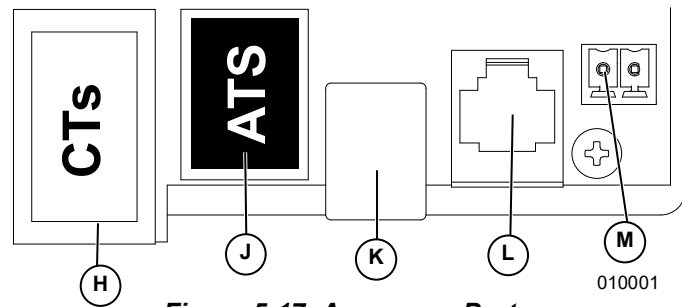

Figure 5-17. Accessory Ports
- See Figure 5-17. Connect Cat 5 / Cat 6 cable to a CTs accessory port (H).